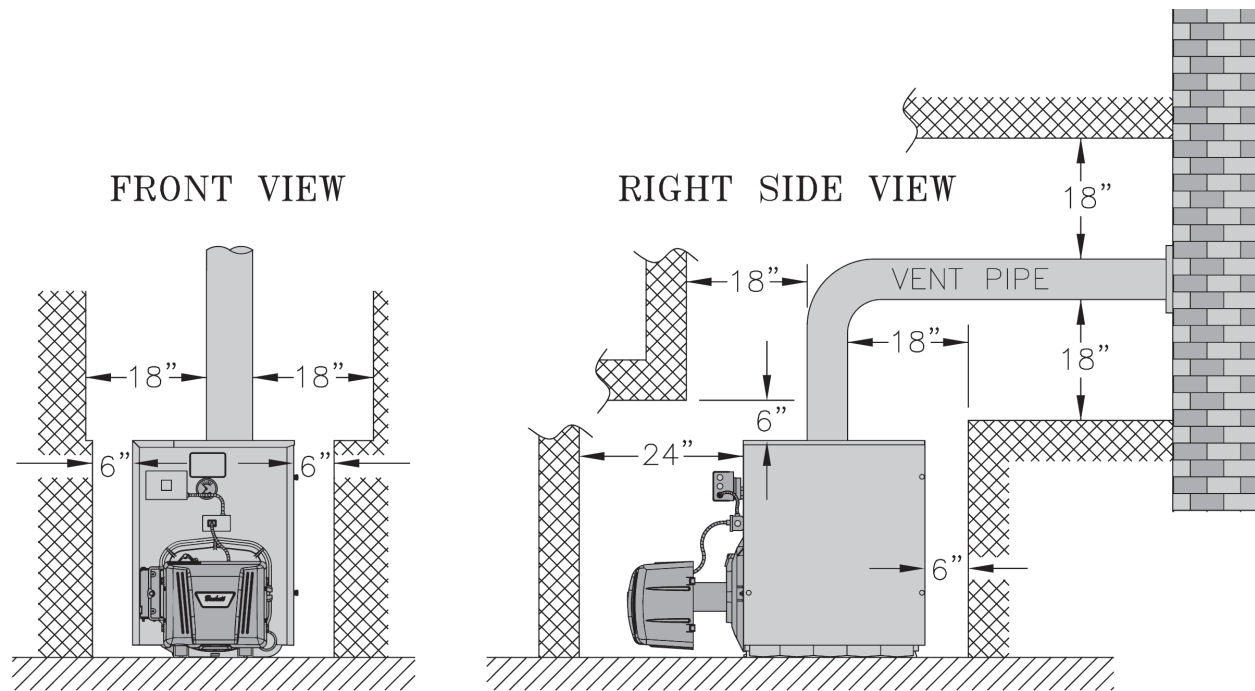

Figure 2: Minimum Installation Clearances To Combustible Materials (Inches)
5. For minimum clearances to combustibles materials. See Figure 2.